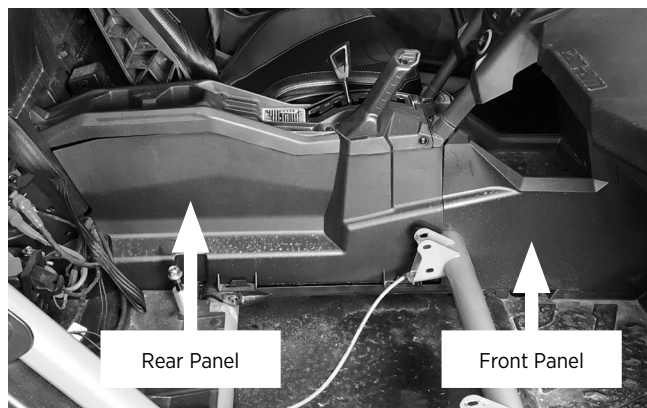

Figure 2a
2. Remove the front center console panel on the passenger side (Figure 2a).
3. Remove the rear center console panel on the passenger side (Figure 2a).